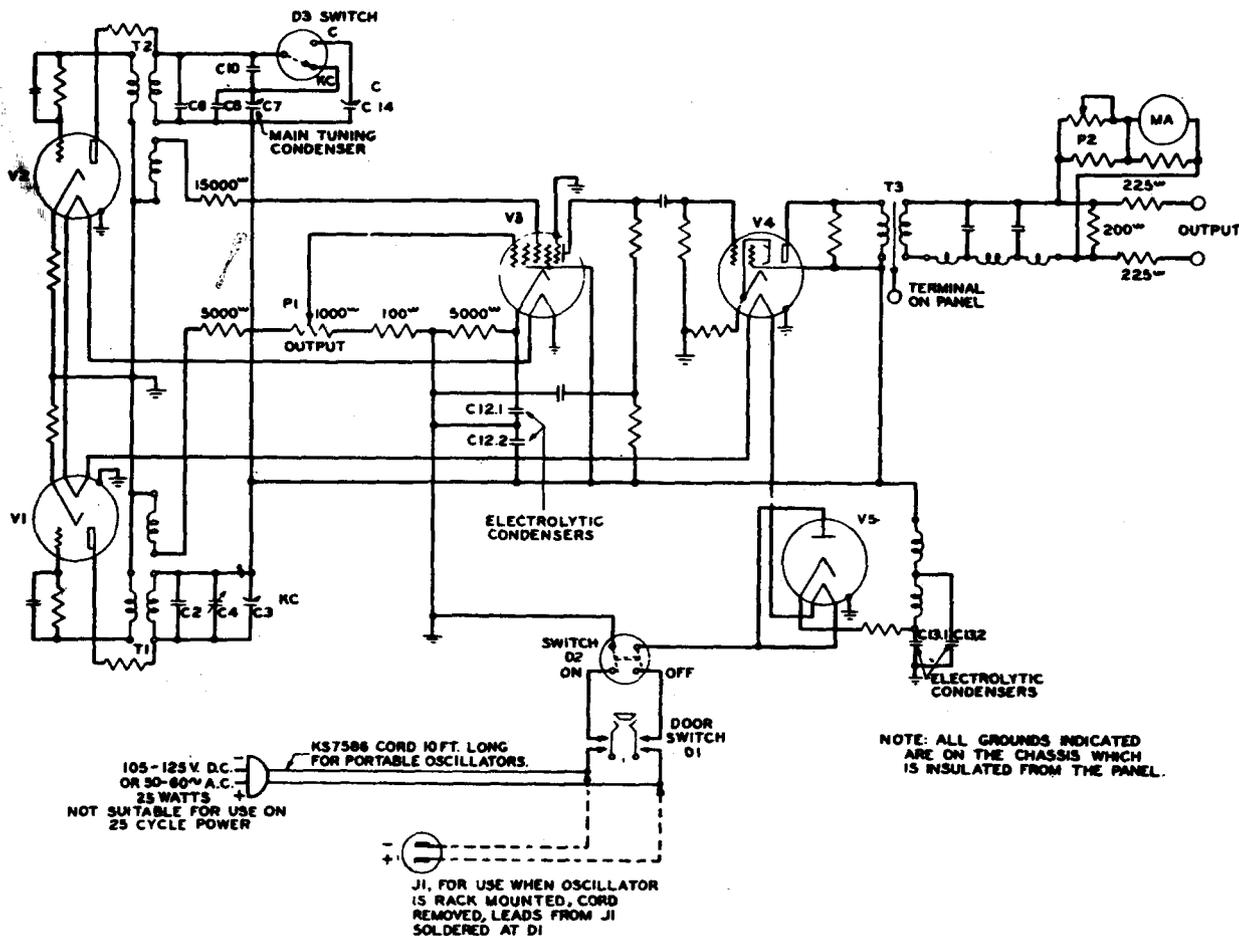

Fig. 2 - Principal Circuit Features
- 1.02 Issue 2 replaces Issue 1 to give additional vacuum tube information and correct Fig. 2.
2.04 Detailed information on the circuit of the 19C oscillator is shown in Drawing ESR-629665, a copy of which is attached in the housing of the oscillator. A wiring diagram also is supplied separately. The principal circuit features of the oscillator are shown in Fig. 2.